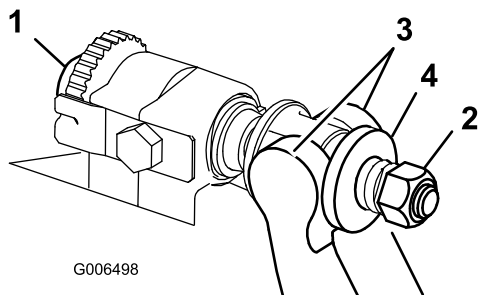

Figure 27
1. Turn bedbar adjuster screws counterclockwise to back the bedknife away from the reel (Figure 27).
2. Back out the spring tension nut, until the washer is no longer tensioned against the bedbar (Figure 27).